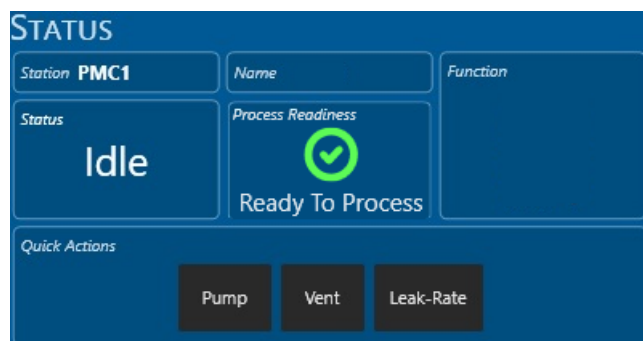

Figure 4-1 Status panel
- 17 Click the **Pump** button in the Status panel (see Figure 4-1).